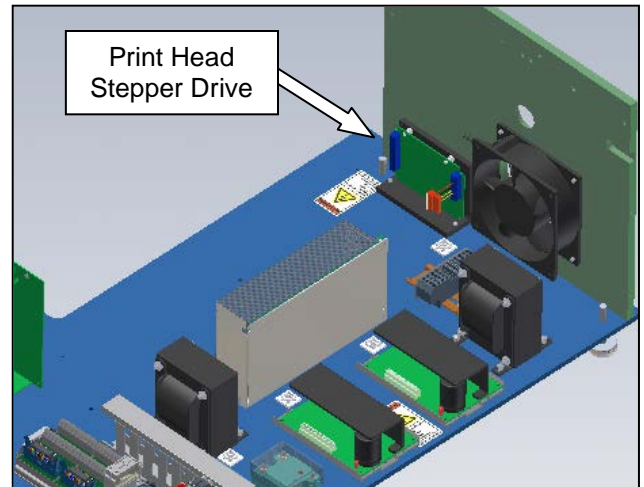

Figure 3-141. Print Head Stepper Drive (Electrical assembly isolated for clarity)
3. Locate the Print Head Stepper Drive (Figure 3-141).